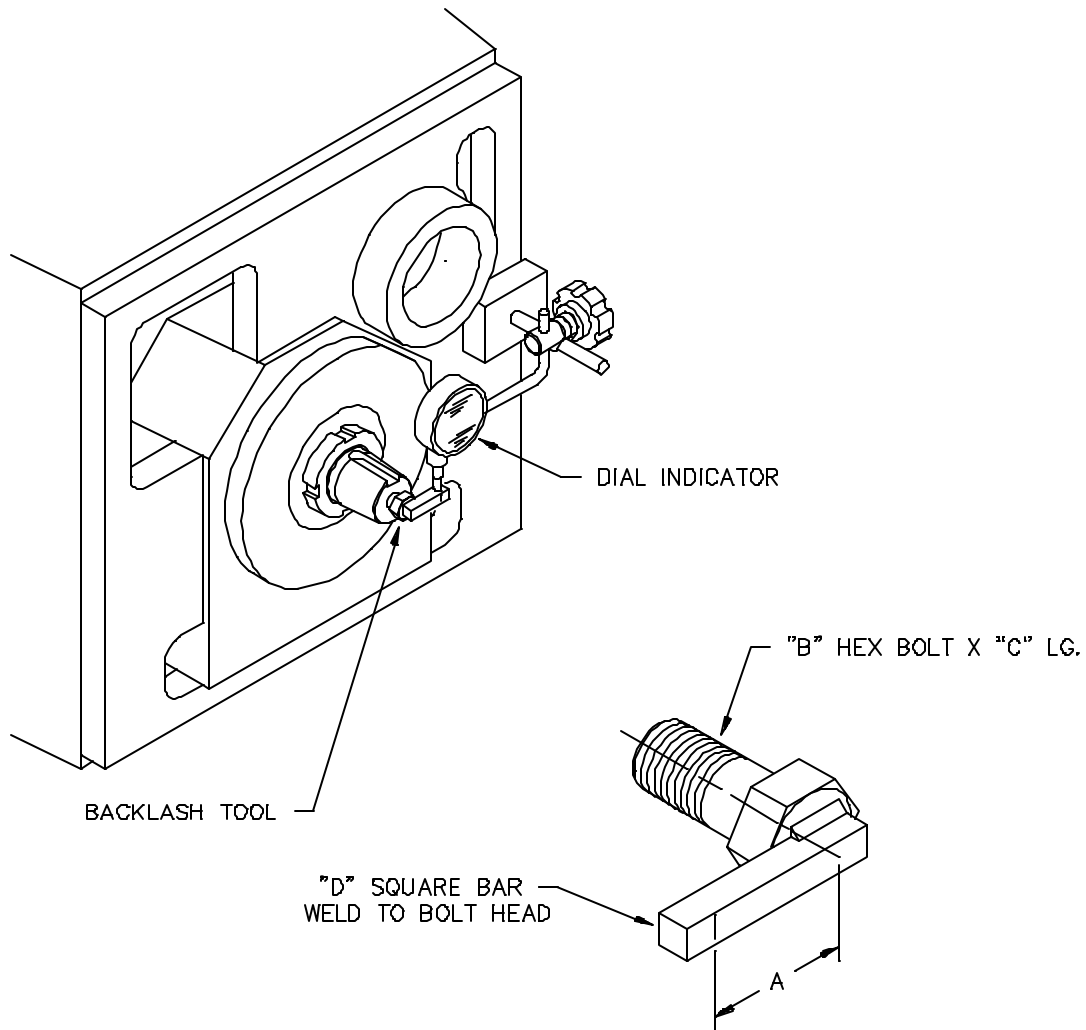

Figure 17: Backlash Setting
13. Install a backlash tool (supplied by others) (*Figure 17, page 21*) in the spiral bevel pinion shaft and measure the backlash by placing a dial indicator against the backlash tool at a right angle to the rotation. Restrain the output shaft from turning and rotate the spiral bevel pinion shaft back and forth to measure the free movement.